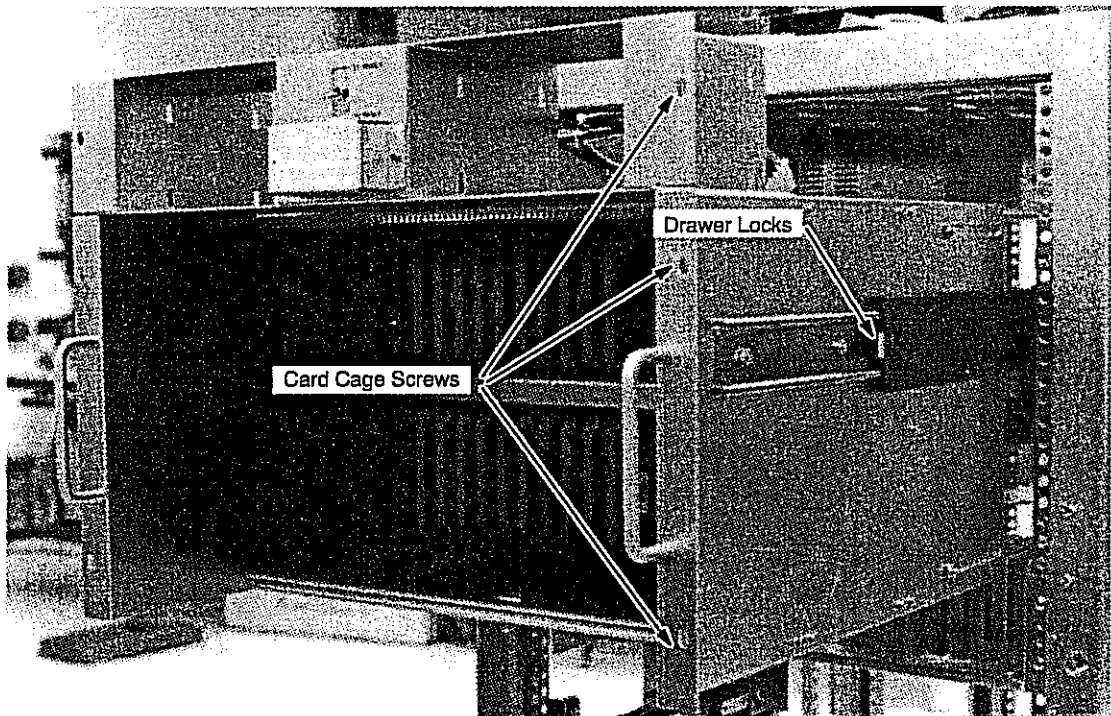

Figure 7-11. IOS VME Card Cage
4. Remove the screws that secure the card cage. Refer to Figure 7-11.
7. Pull the card cage out as far as it will extend (the drawer has locks as shown in Figure 7-11), and then remove the entire maintenance small computer system interface (SCSI) as directed in the following steps.
6. Remove the six screws that secure the card cage. Refer to Figure 7-11.
9. Pull the card cage out as far as it will extend (the drawer has locks as shown in Figure 7-11).